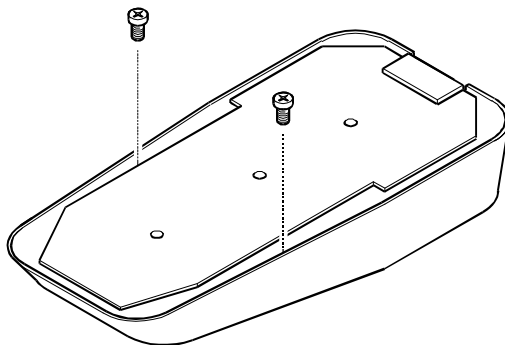

Figure 13: Screw removal
3. (Figure 13) Remove the PCB assembly fixing screws.